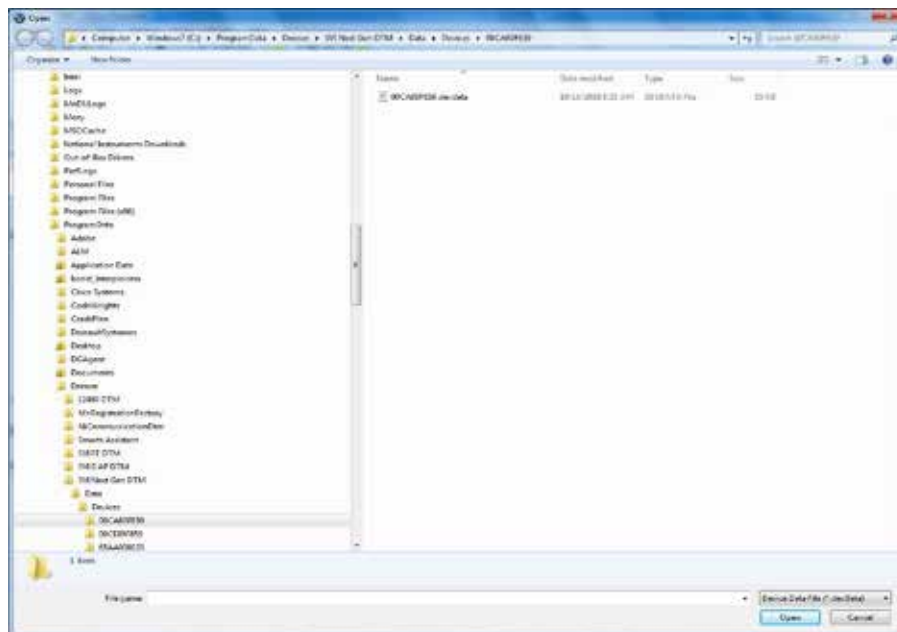

Figure 105 Import Valve KPI: Open
1. Click **Import Valve KPI** button and Figure 105 appears.